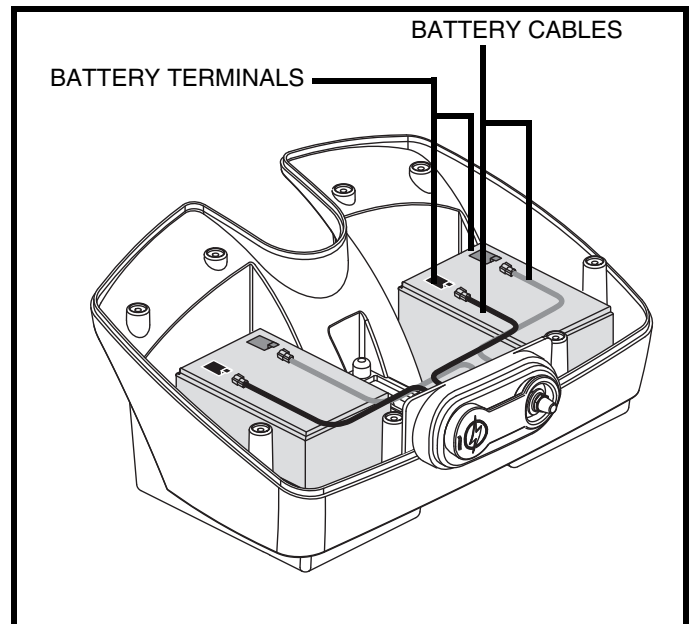

Figure 15. Battery Replacement (12 Ah Pack Shown)
3. Remove the eight (8) screws from the perimeter of the battery pack.
5. Disconnect the black (-) and red (+) battery cables from the battery terminals of each battery. **See figure 15.**